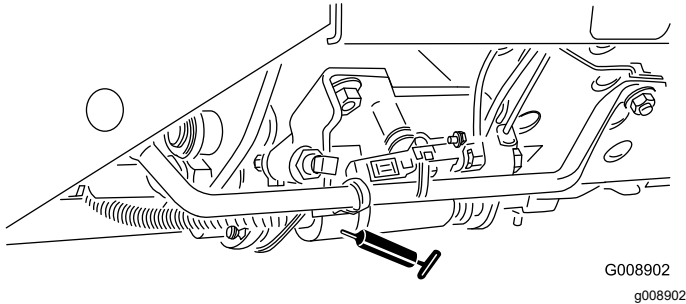

Figure 46
- Mow/transport slide (Figure 46)